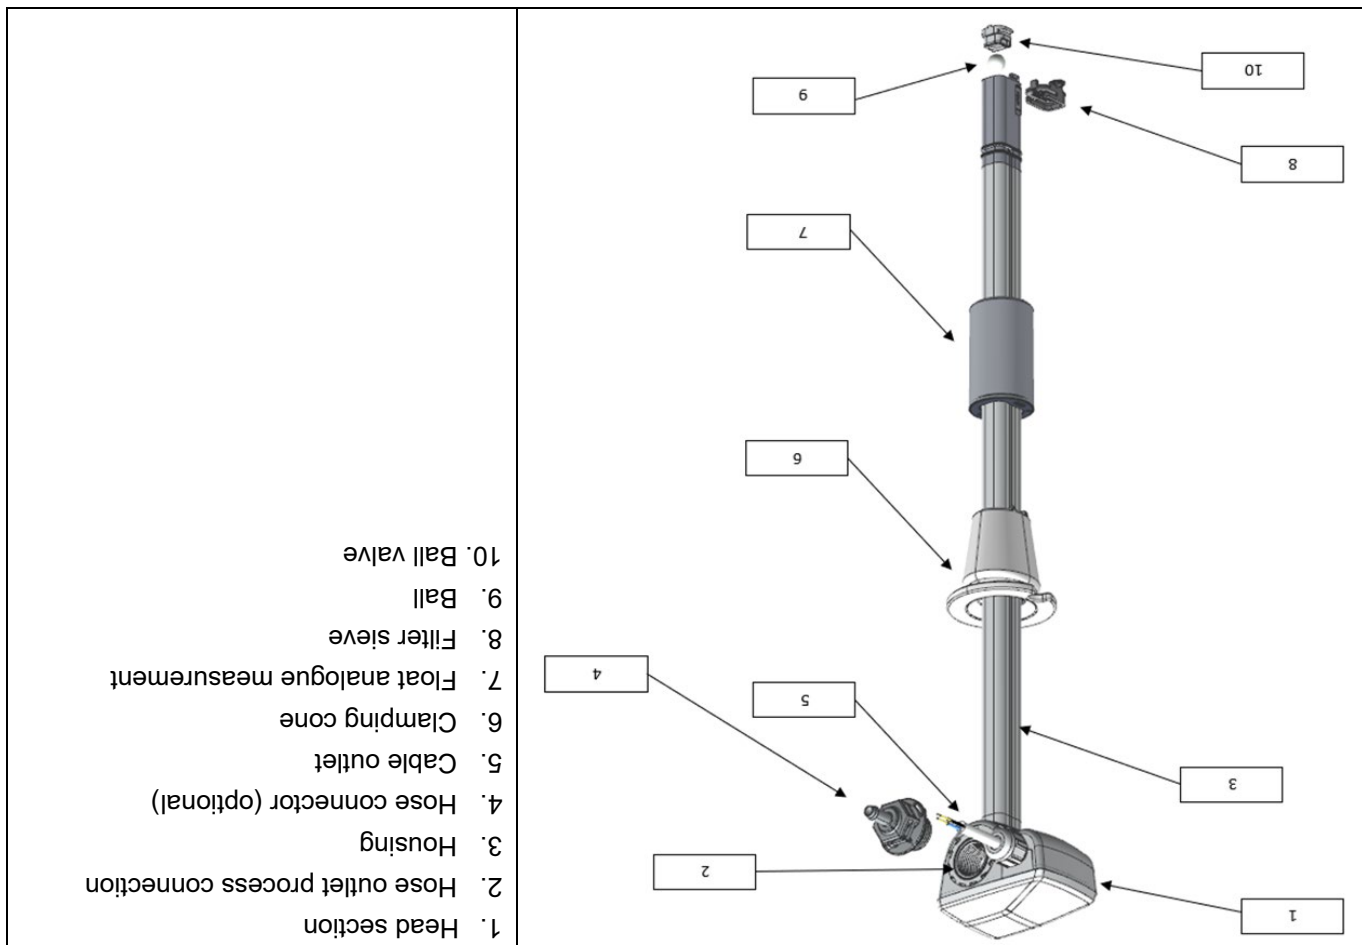

Figure 5
- ▶ Hold the elolance by the head section (Figure 4 and Figure 5, item 1) and push it into the desired position (height adjustment).
- ▶ Hold the elolance by the head section (Figure 4 and Figure 5, item 1) and screw the container lid tightly to the container thread.
- ▶ Insert the hose connector (Figure 4 and Figure 5, item 4) into the G3/8" thread. Observe the tightening torque of 2.3 Nm -0.2 Nm/+0.7 Nm to ensure leak-tightness.
The eiolance is connected to a hose (not included in the scope of delivery) and the downstream system (e.g. dosing pump) at the head section by means of a hose connector (Figure 4 and Figure 5, item 4).
elolance SL2R variants have a continuous level measurement with an extended measuring range, which is detected by means of a float (Figure 5, item 7) and reed grid. The integrated filter sieve (Figure 4, item 9 and Figure 5, item 8) ensures that the elolance and the attached system are protected from coarse foreign bodies and impurities. The ball leakage brake consists of a freely movable ball (Figure 4, item 11 and Figure 5, item 9) and the ball valve (Figure 4, item 12 and Figure 5, item 10). The ball leakage brake prevents larger quantities from discharging after the elolance has been removed from the container.
The float (Figure 4, item 7 and item 8 as well as Figure 5, item 7) with integrated magnet moves up and down depending on the fill level. This activates a reed switch. Depending on the switching function of the reed switch, the signal is output either on a rising or falling level. elolance SL2D1 variants have a float (Figure 4, item 7), e.g. for the empty message of a container. elolance SL2D2 variants have 2 floats (Figure 4, item 7 and item 8), e.g. for the pre-emptive and empty signal of a container.